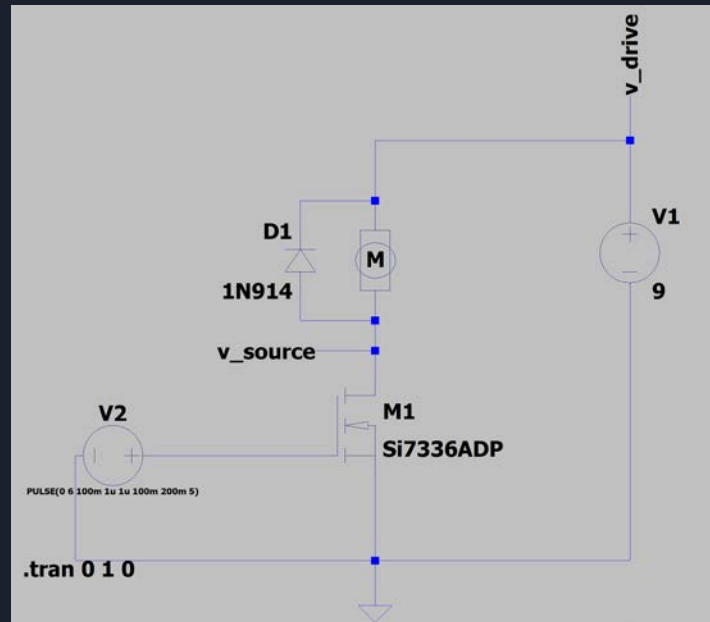

Figure 19.
- Connect the diode to the rest of the circuit as shown in figure 19.